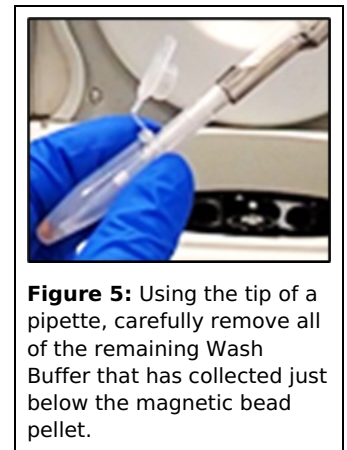

Figure 5: Using the tip of a pipette, carefully remove all of the remaining Wash Buffer that has collected just below the magnetic bead pellet.
9. Use a 20 μ L pipette to remove the remaining Wash Buffer from the tubes (Figure 5).